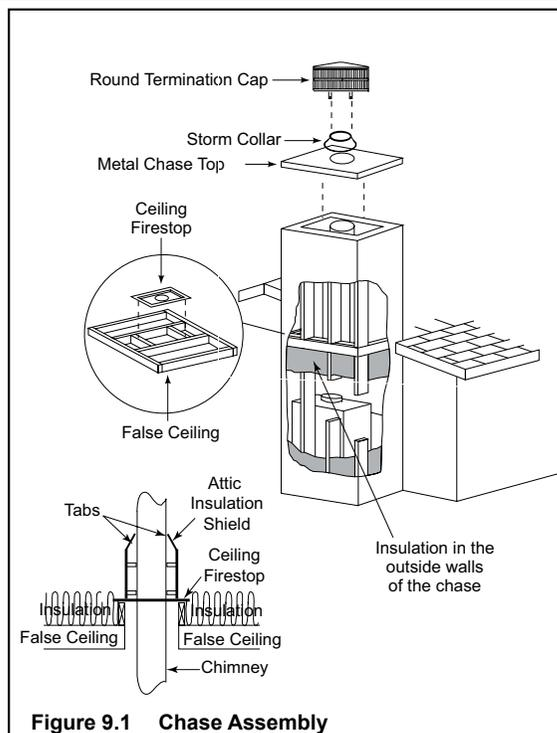

Figure 9.1 Chase Assembly
Walls, ceiling, base plate and cantilever floor at the first level of the chase should be insulated. See Figure 9.1. Vapor and air infiltration barriers should be installed in the chase as per regional codes for the rest of the home. Additionally, Hearth & Home Technologies recommends that the inside surfaces be sheet rocked and taped (or the use of an equivalent method) for maximum air tightness.
- 4) In cold climates, the walls of the chase should be insulated to the level of the false ceiling as shown in Figure 9.1. This will help reduce heat loss from the home around the fireplace.